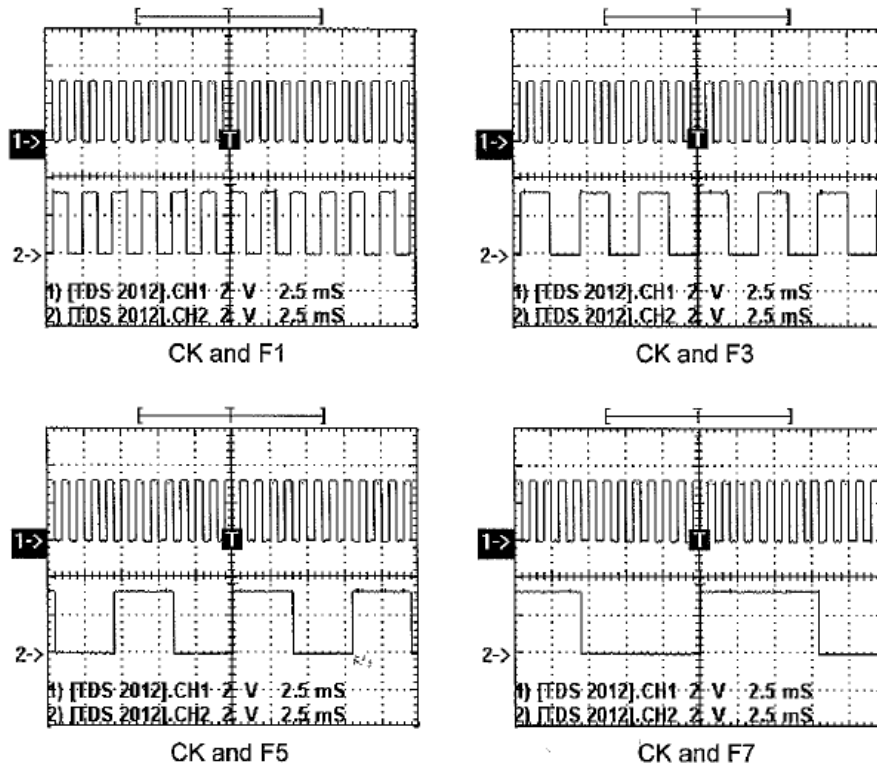

Figure 2.5
2. Connect  $A2$  (Clear) to SW0;  $A1$  to SW1;  $B2$ (PR) to SW2; outputs  $F1$ ,  $F3$ ,  $F5$  and  $F7$  to L1, L2, L3 and L4 respectively. Connect  $B1$ (CK) to the OUT of Clock Generator, and set it 1kHz. Set  $A1$  and  $B2$  to HIGH. Switch SW0 to HIGH. Measure the waveforms of CK,  $F1$ ,  $F3$ ,  $F5$  and  $F7$ . **Figure 2.5** shows the reference waveforms.